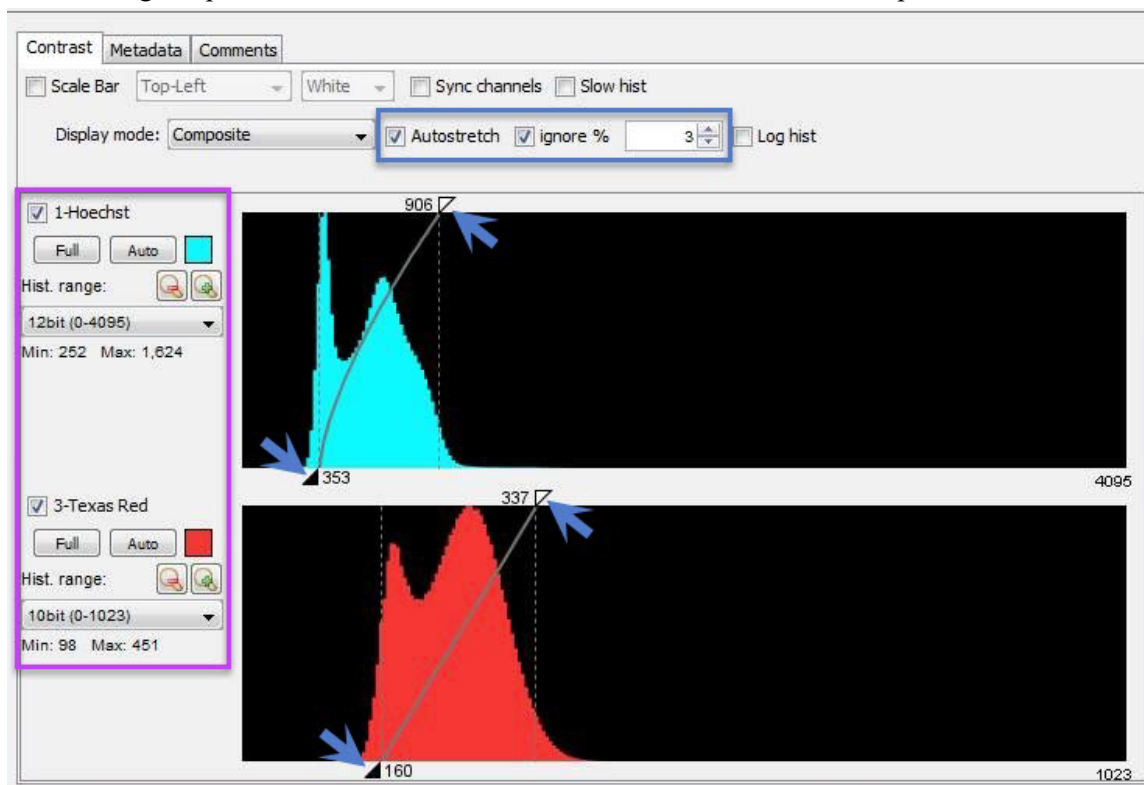

Figure 23. Adjusting camera depth and image contrast.
- a. In the *Main* window, select the *Contrast* tab and ensure that “Camera Depth” menu is set to **12 bit (0-4095)** for Hoechst and **10 bit (0-1023)** bit for Texas Red in the (purple box in Figure 23, below).
- b. Next, confirm that the [Autostretch] and [Ignore] boxes are selected, and that the percentage value is in the range of 1–3% for Ignore option (blue box in Figure 23). If this does not provide optimal contrast, drag the ends of the diagonal line (see arrows in Figure 23) closer to the range of the histogram peaks and zoom out when satisfied with the focus in the Z-plane.